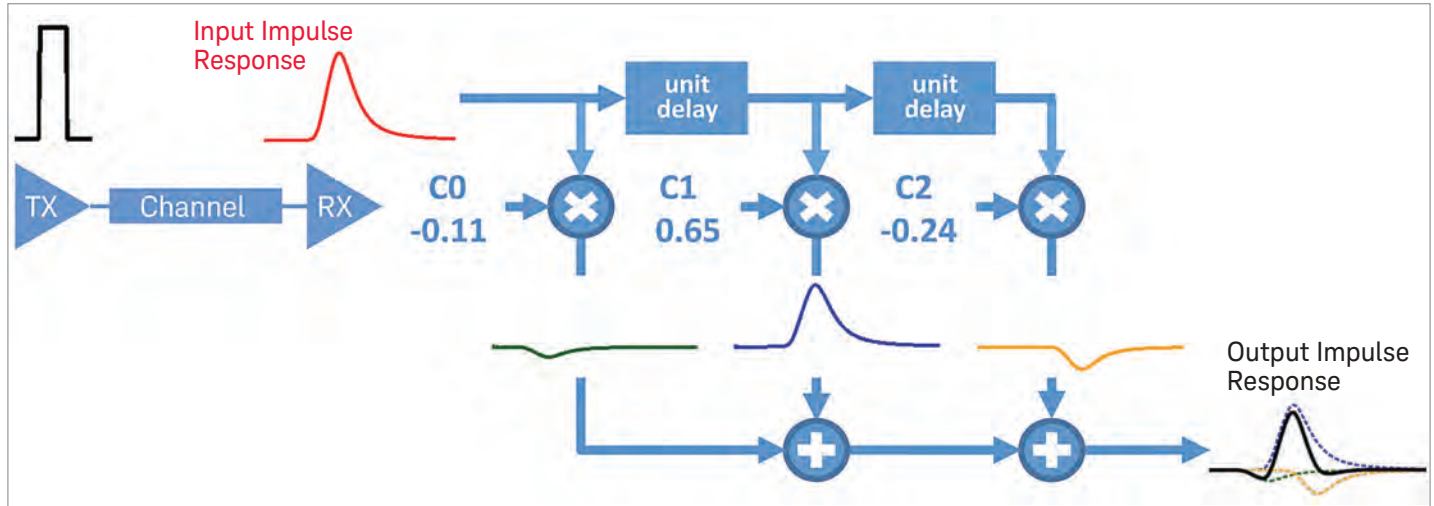

Figure 17. A three taps FFE example.
An FFE is a tapped delay line circuit that produces a delayed and weighted sum of an input signal. FFE is widely used in a SERDES receiver (RX) to mitigate Inter-Symbol-Interference (ISI) caused by a lossy channel. Figure 17 shows a three-taps FFE example. Tap values C_0 , C_1 and C_2 are optimized to minimize ISI.